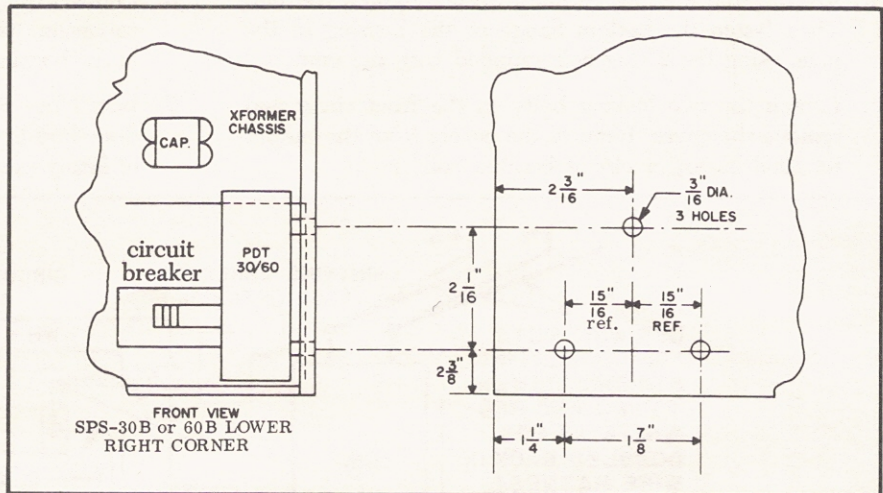

Fig. 4—Mounting, PDT-30/60
1. Three tapped #8-32, $\frac{3}{8}$ " long stand-offs, together with the necessary hardware for mounting the PDT-30/60, are provided. Fig. 4 diagrams the location of the mounting holes.